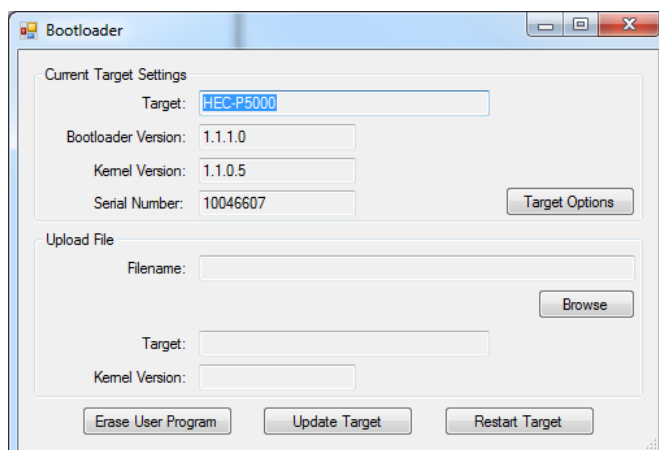

Figure 2.38 - HEC-P5XXX Bootloader
7. Using the menu, click **PROJECT** then **BOOTLOADER**. You may see a window momentarily while EZ LADDER connects to the HEC-P5XXX's bootloader. The Bootloader window will open. See Figure 2.38.